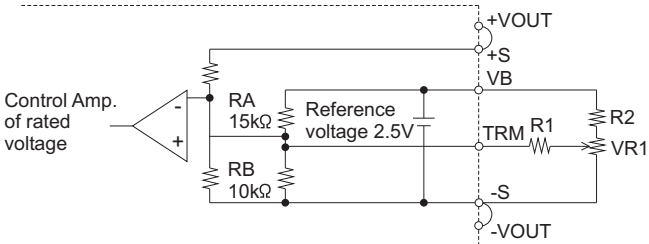

Fig.4.6 Output voltage control circuit
(1) Adjusting method by external resistor
- By connecting the external potentiometer (VR1) and resistors (R1, R2), output voltage becomes adjustable, as shown in Fig.4.6, recommended external parts are shown in Table 4.3.